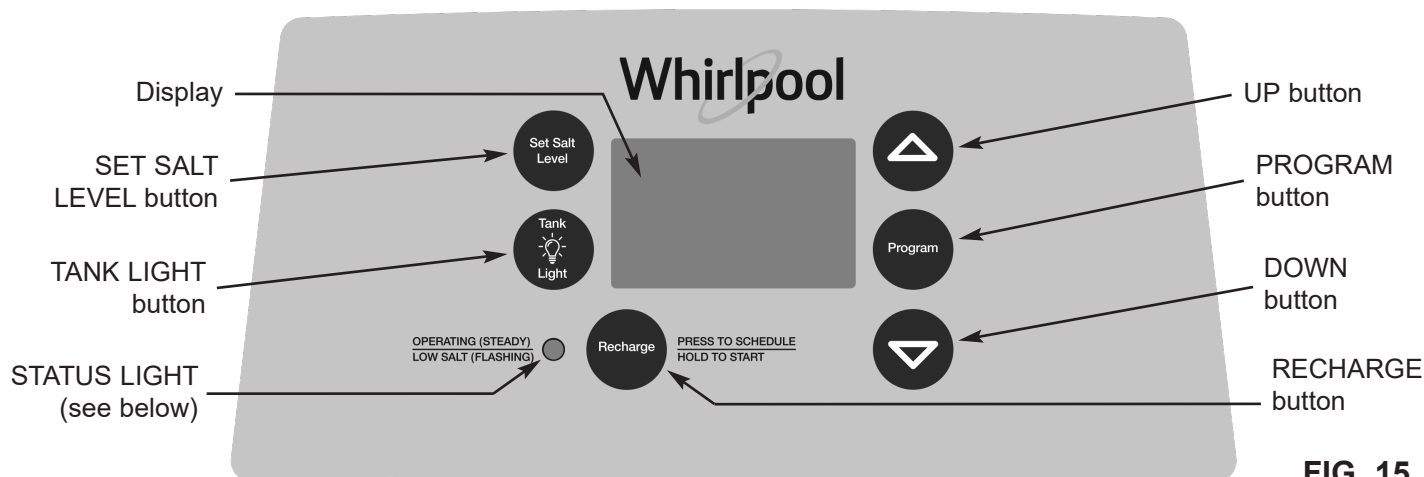

FIG. 15
5. Initiate a regeneration by pressing and holding for 3 seconds the RECHARGE button (see Figure 15 on page 13). The valve motor will start running and the valve will advance to the "Fill" position.